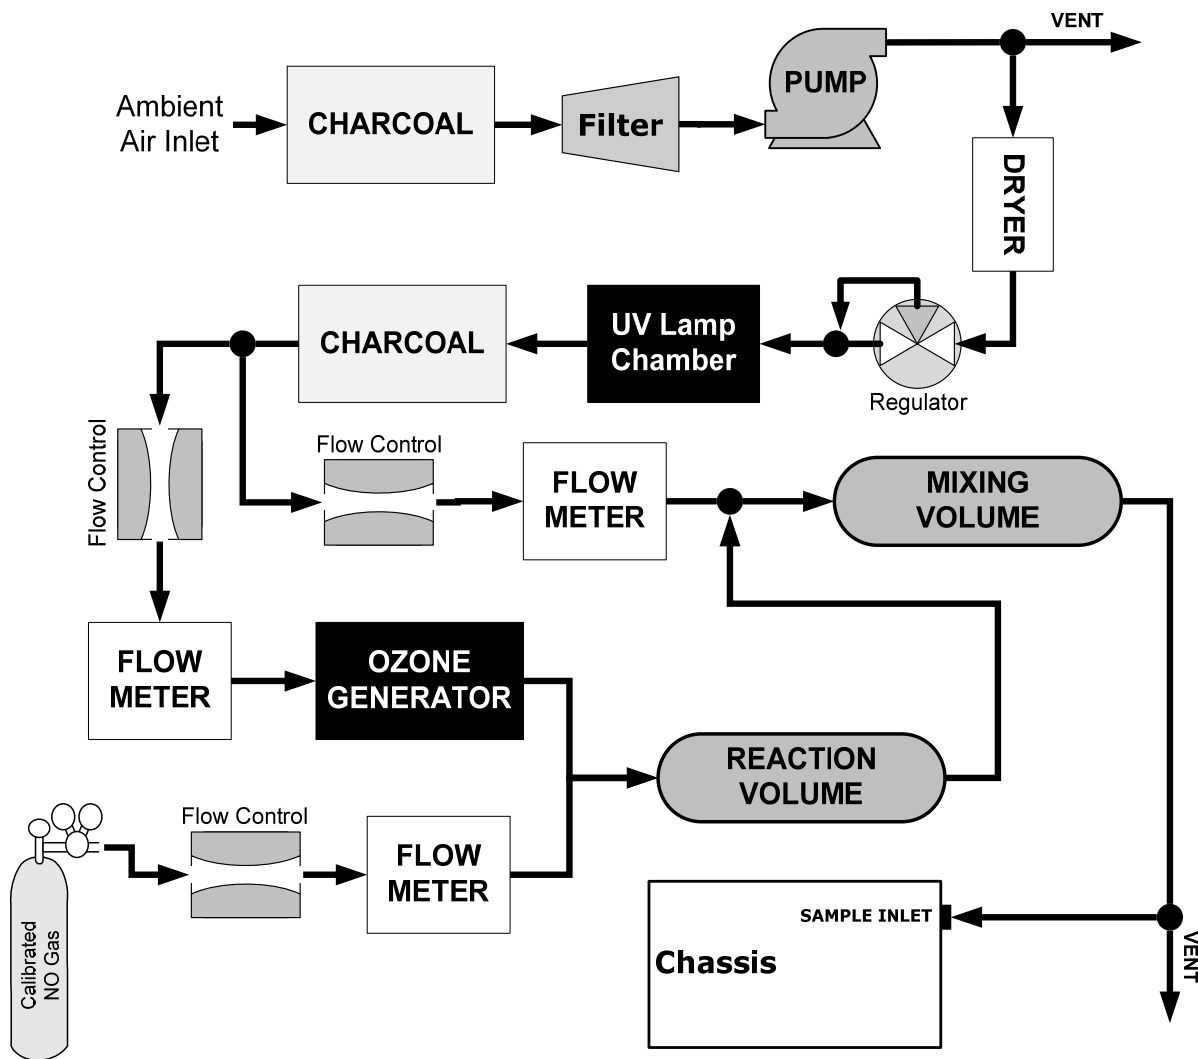

Figure 10-1: GPT Calibration System
- Given that the O₃ concentration is known for this reaction, the resultant concentration of NO₂ can be determined. Ozone is added to excess NO in a dynamic calibration system as shown in Figure 10-1, and the NO channel of the chemiluminescence analyzer detects the changes in NO concentration.